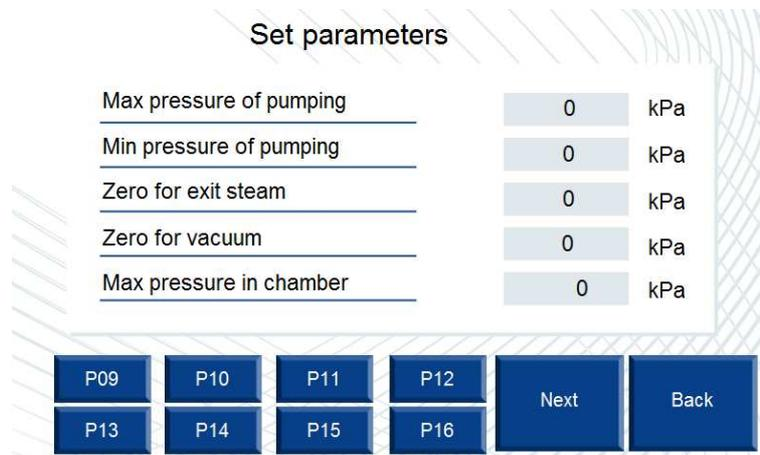

Fig. 19
**Next** – pressing this button navigates to the next screen (Fig. 19).
**Back** – pressing this button returns to the previous screen (Fig. 19).